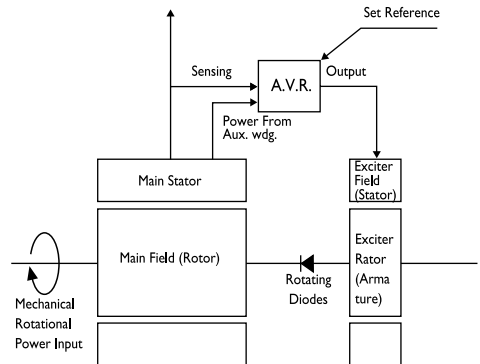

Figure 13.1. Meccalte alternator, operating principles block schematic diagram
The electrical power produced by the generating set is derived from a closed loop system consisting principally of the exciter rotor the main revolving field and the automatic voltage regulator (see Figure 13.1) The process begins when the engine starts to rotate the internal components of the alternator. The residual magnetism in the main rotor produces a small alternating voltage (AC) in the main stator. The automatic voltage regulator rectifier this voltage (converts it to DC) and applies it to the exciter stator.